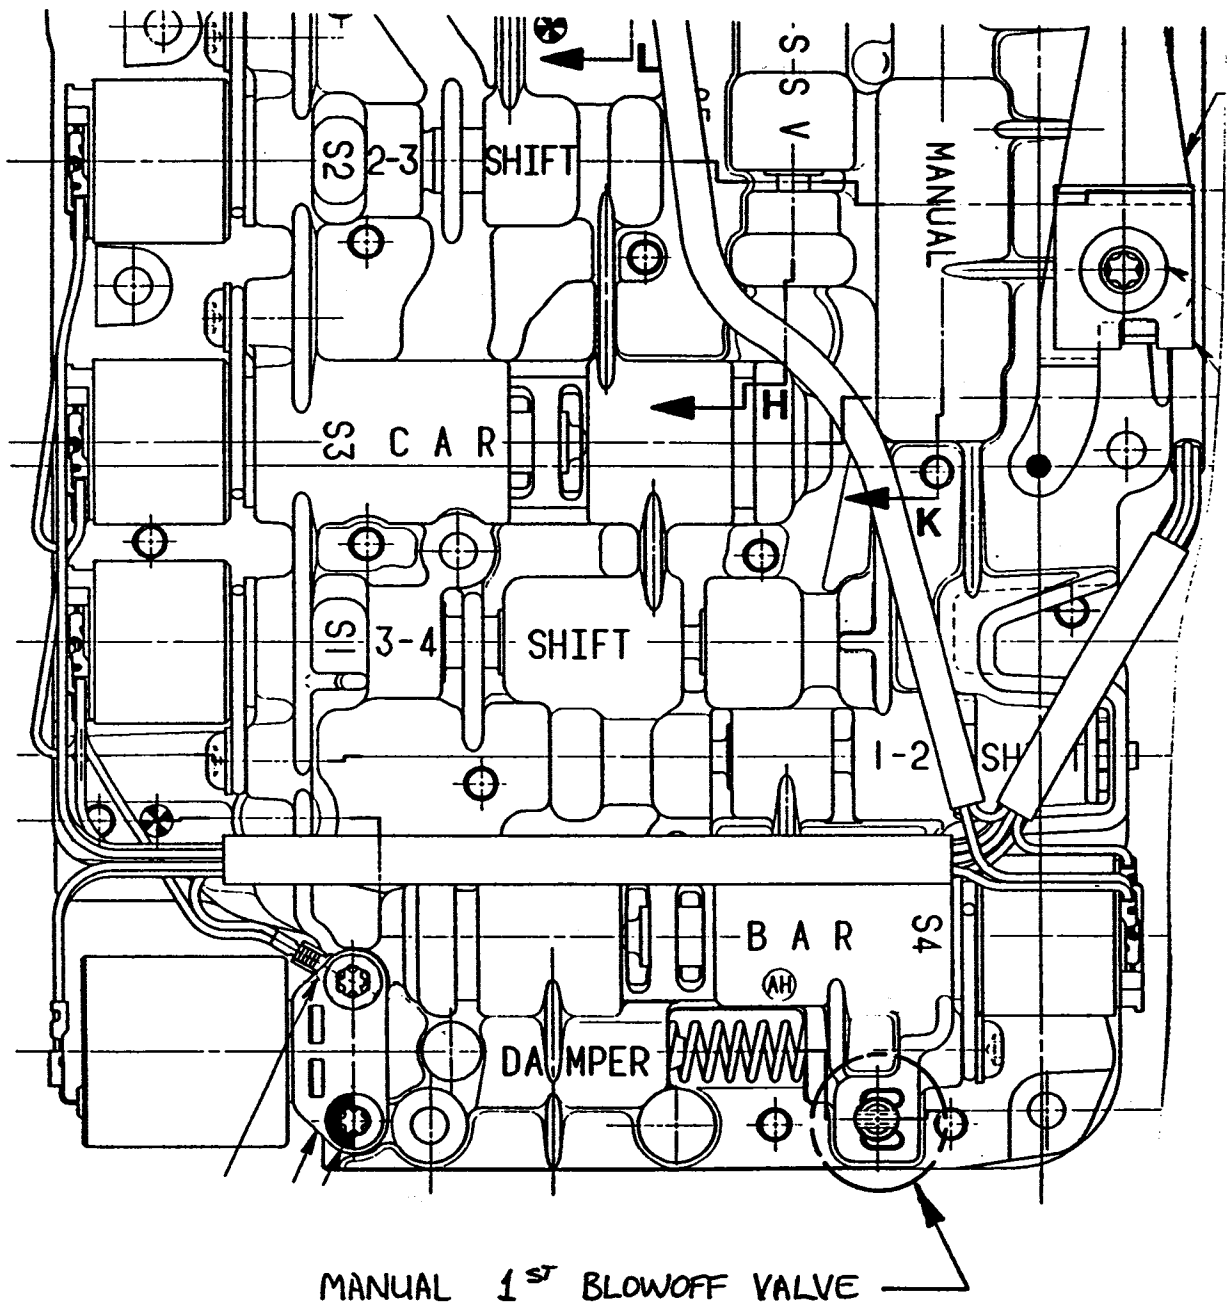

FIGURE 4: MANUAL 1ST BLOW-OFF VALVE.
- Remove retainer pin, spring and ball from the valve body. Do not split valve body (Refer Figure 4 below). Check ball seat for roundness. If O.K. proceed to next step; if not O.K, lightlypeen the ball onto the seat and recheck. Also check that the ball moves freely up and down in the bore, particularly the bottom 4mm of travel.